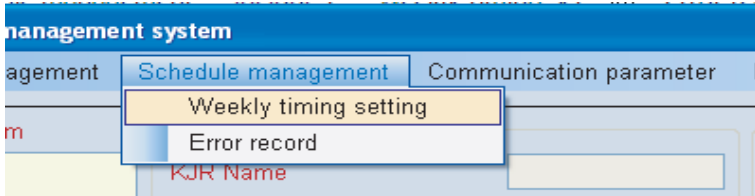

Fig.4-35
3) “Schedule management” includes: “Weekly timing setting” and “Error record”. See Fig. 4-35